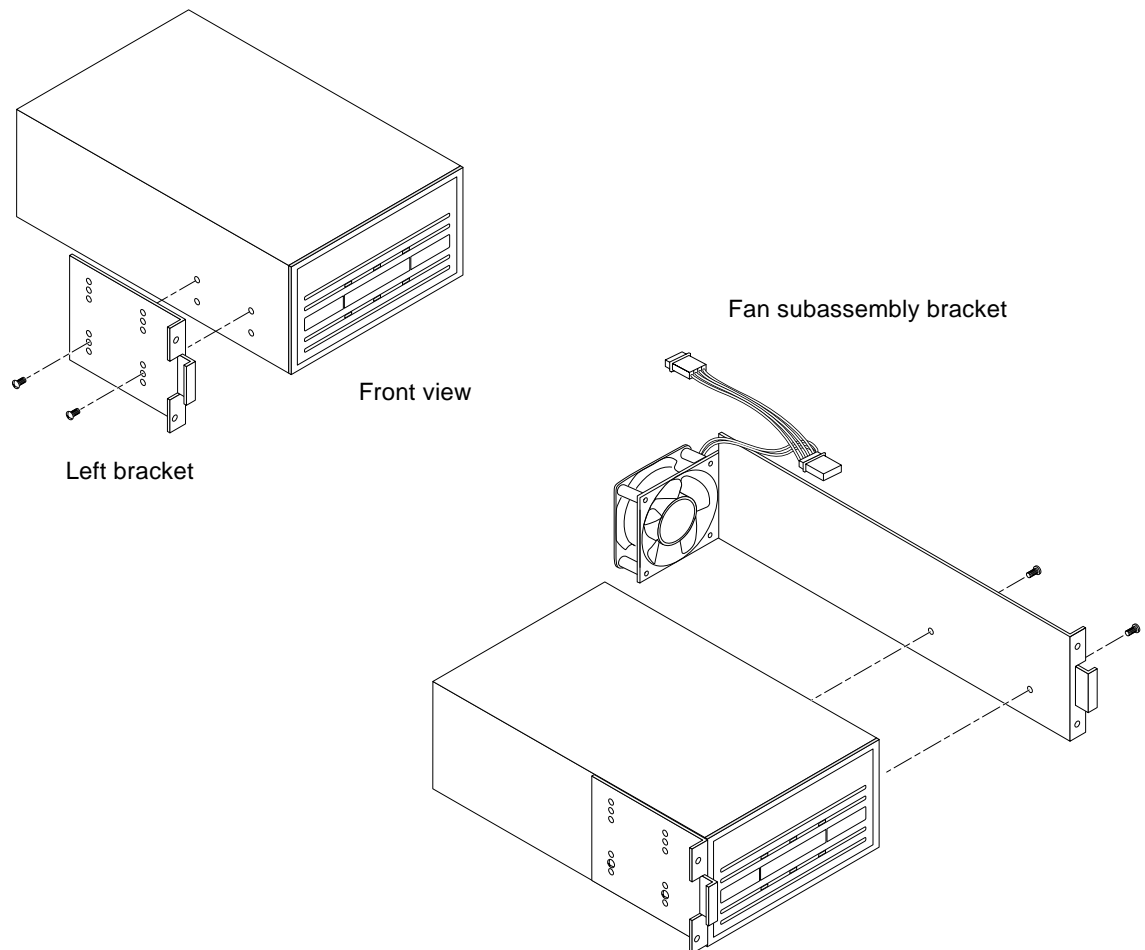

Figure 2 Mounting Brackets
2. **Attach the shorter bracket to the left side of the auto-loader using two M3 screws. See Figure 2.**
2. Attach the bracket to the auto-loader using two M3 screws. See Figure 2.